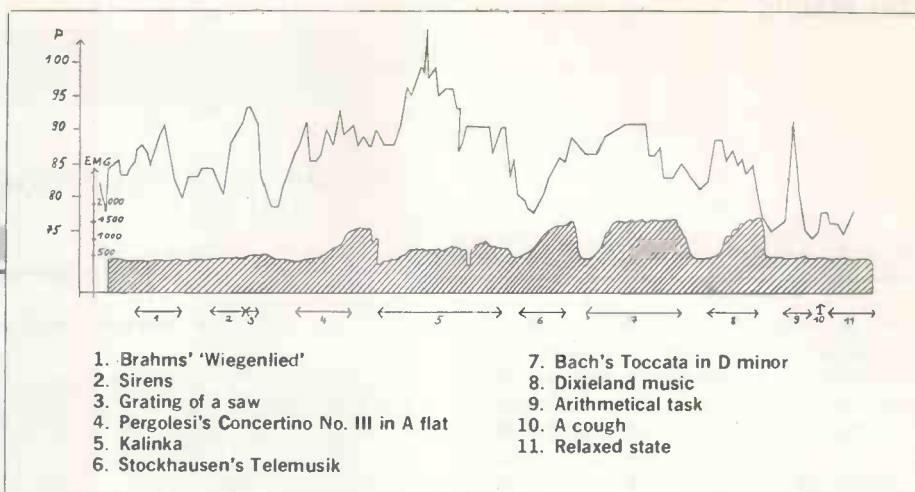

Figure 5. Pulse rate and muscle activity of a subject in response to a variety of aural stimuli.
Moving to dance music, activity shifts to the legs (hardly surprising, perhaps, but remember that foot-tapping was verboten); with maths, the opposite occurs. Normal level Bach (Brandenburg Concerto No. 6) again predisposes the body towards activity in the leg muscles, but loud Bach sends the leg muscles off the scale into hyperspace - and this was still with no actual movement of the leg. Figure 5 shows both muscle activity (EMG) and pulse rate (P) coincident with different aural stimuli ranging from the nerve-grating